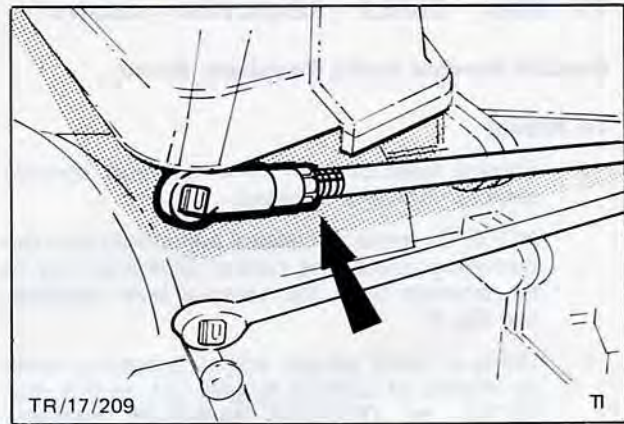

Fig. 13. Adjustable end on upper control rod
9. Tighten locknut, Fig. 13, making sure that adjustable end of gear shift rod remains vertical.